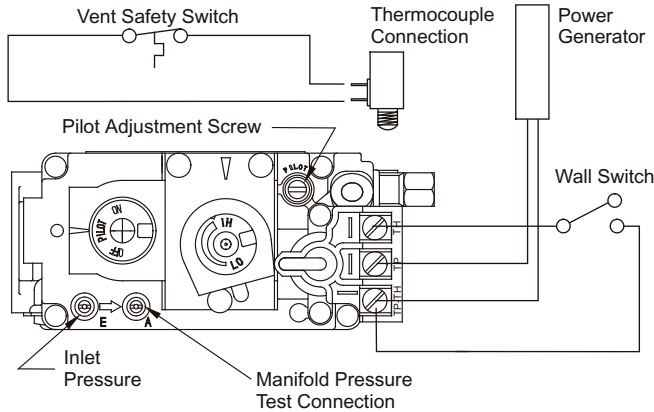

Figure 12. *Sit Nova 820* gas valve.
- Have the fireplace installation inspected yearly, including a visual check of the vent system, the burner and the pilot flame. For your convenience a 1/8" manifold pressure tap is supplied on the gas valve for a test gauge connection. See Figure 12.
1. Locate Pilot Adjustment Screw. (See figure 12.)
Pilot won't ignite	Disconnect remote wires and try to light pilot. If pilot now works, remote connections are faulty. Check wiring diagram figure 12.
Main burner will not light	1. Check wiring (see figure 12). 2. Check wall switch for proper connection.